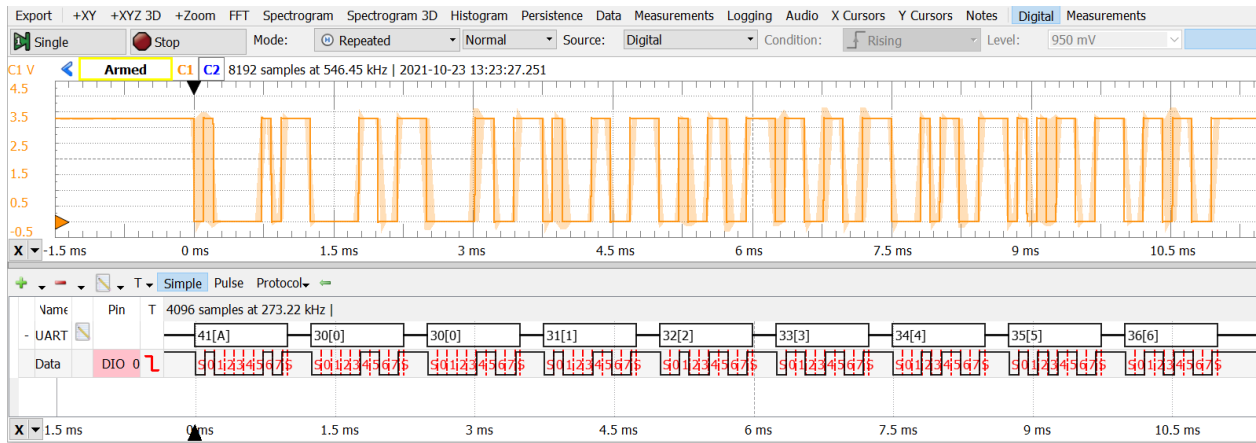

Figure 4: 'Scope and Logic Analyzer Display.
Logic Analyzer. The logic analyzer can be used to display digital signals. It can display multi-bit bus values (not relevant in this case) and multi-bit-duration values (as for the UART configuration used here). Figure 4 shows the transmitted serial data using a configuration called "UART."
5. Screen captures of the AD2 logic analyzer and protocol analyzer similar to those in Figures 4 and 5 demonstrating the operation of your interface. They should both show your full BCIT ID.